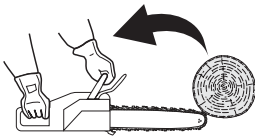

Fig. 35
In some cases, contact with the tip of the guide bar (4) may cause a lightning-fast reverse reaction, kicking the guide bar up and back toward the operator (Figs. 35 - 37).